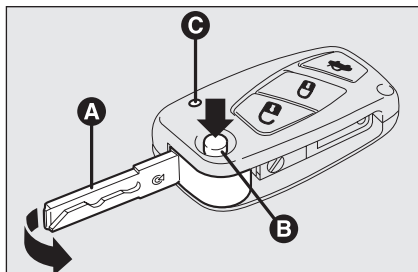

fig. 9
The key is fitted with a metal insert **A**-fig. 9, operating:
**Button B-fig. 9 should only be pressed when the key is away from the body, in particular from the eyes and from objects that can be spoiled (e.g. clothes). Make sure the key can never be touched by others, especially children, who may inadvertently press the button.**